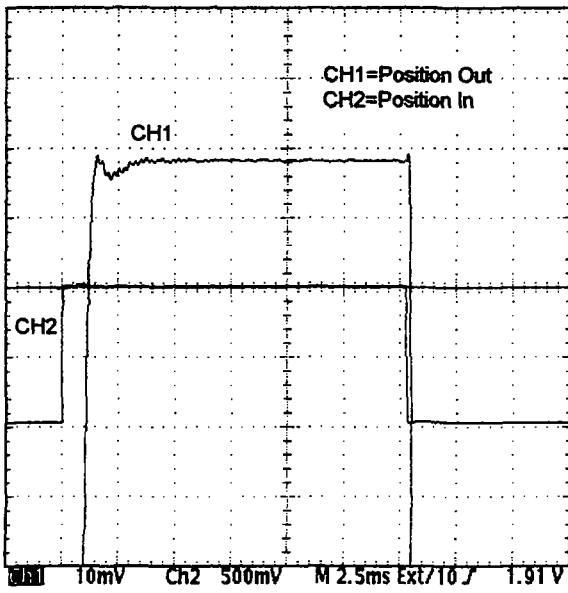

Figure 27.
6. Turn R25 CW to eliminate the overshoot. See Figure 27.